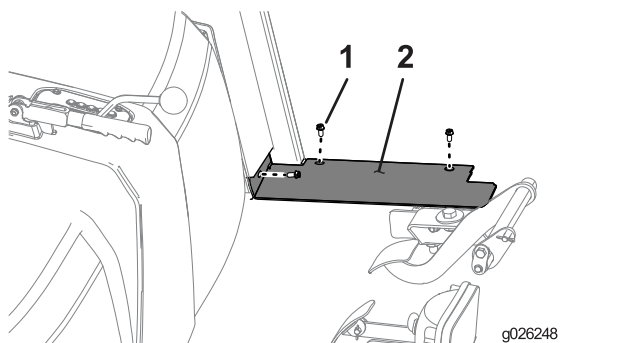

Figure 45
- Install the floor-plate panels on each side of the machine using 3 bolts (1/4 inch) as shown in Figure 45.